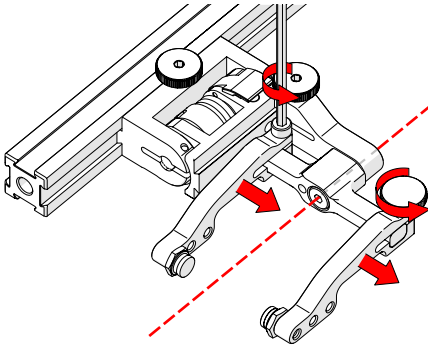

Fig. 200 - Adjust probe holder arms
5. Loosen the probe holder arm adjustment knob (Fig. 200) and remove outer probe holder arm from yoke.
6. Adjust inner probe holder arm as required to best centre the probe on the yoke's pivot axis (Fig. 200).
TIP: The probe holder yoke can accommodate many different probe and wedge sizes of varying widths. It is best to centre the wedge with the yoke's pivot axis to reduce wedge tipping when scanning. Position the inner probe holder arm accordingly with the centre of the yoke (Fig. 200).